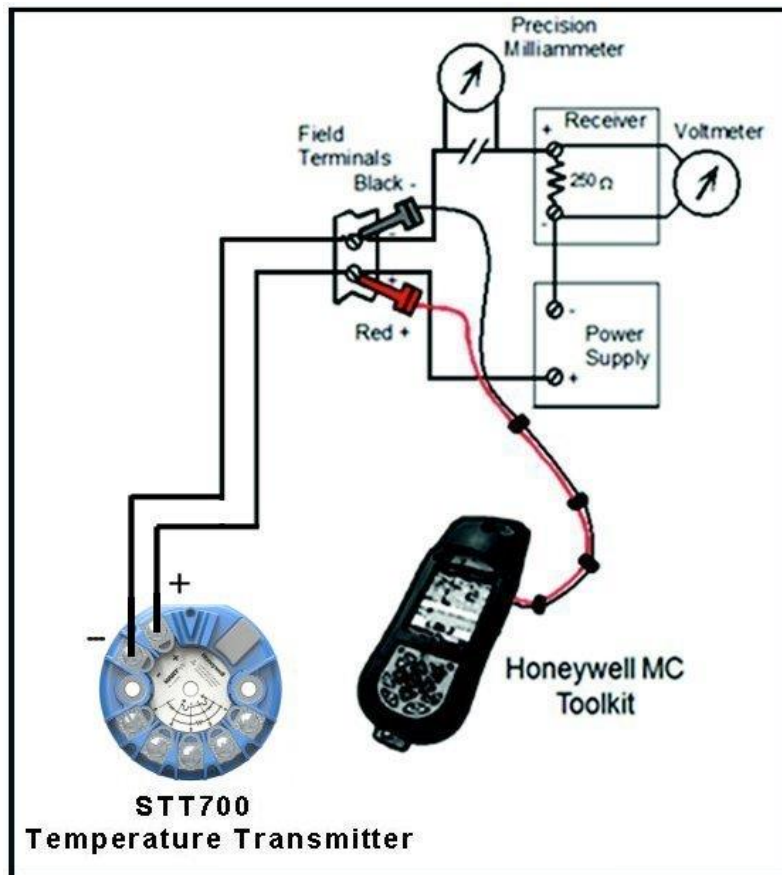

Figure 17 – Current Loop Test Connections
1. Refer to Figure 17 for test connections. Verify the integrity of electrical components in the output current loop.